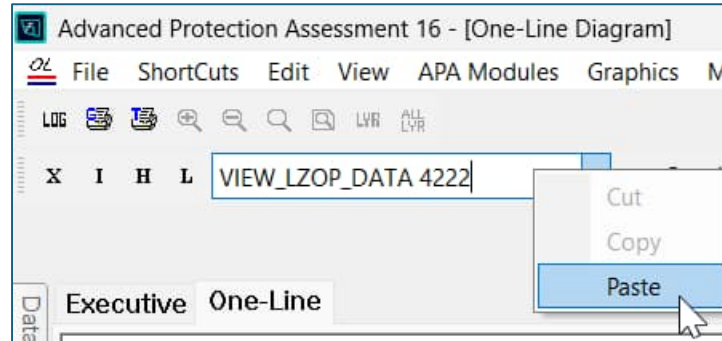

Figure 21: Paste CUPL command in the APA command line and press **Return**.
4. You must have APA open, with appropriate database attached, etc. See Figure 21.